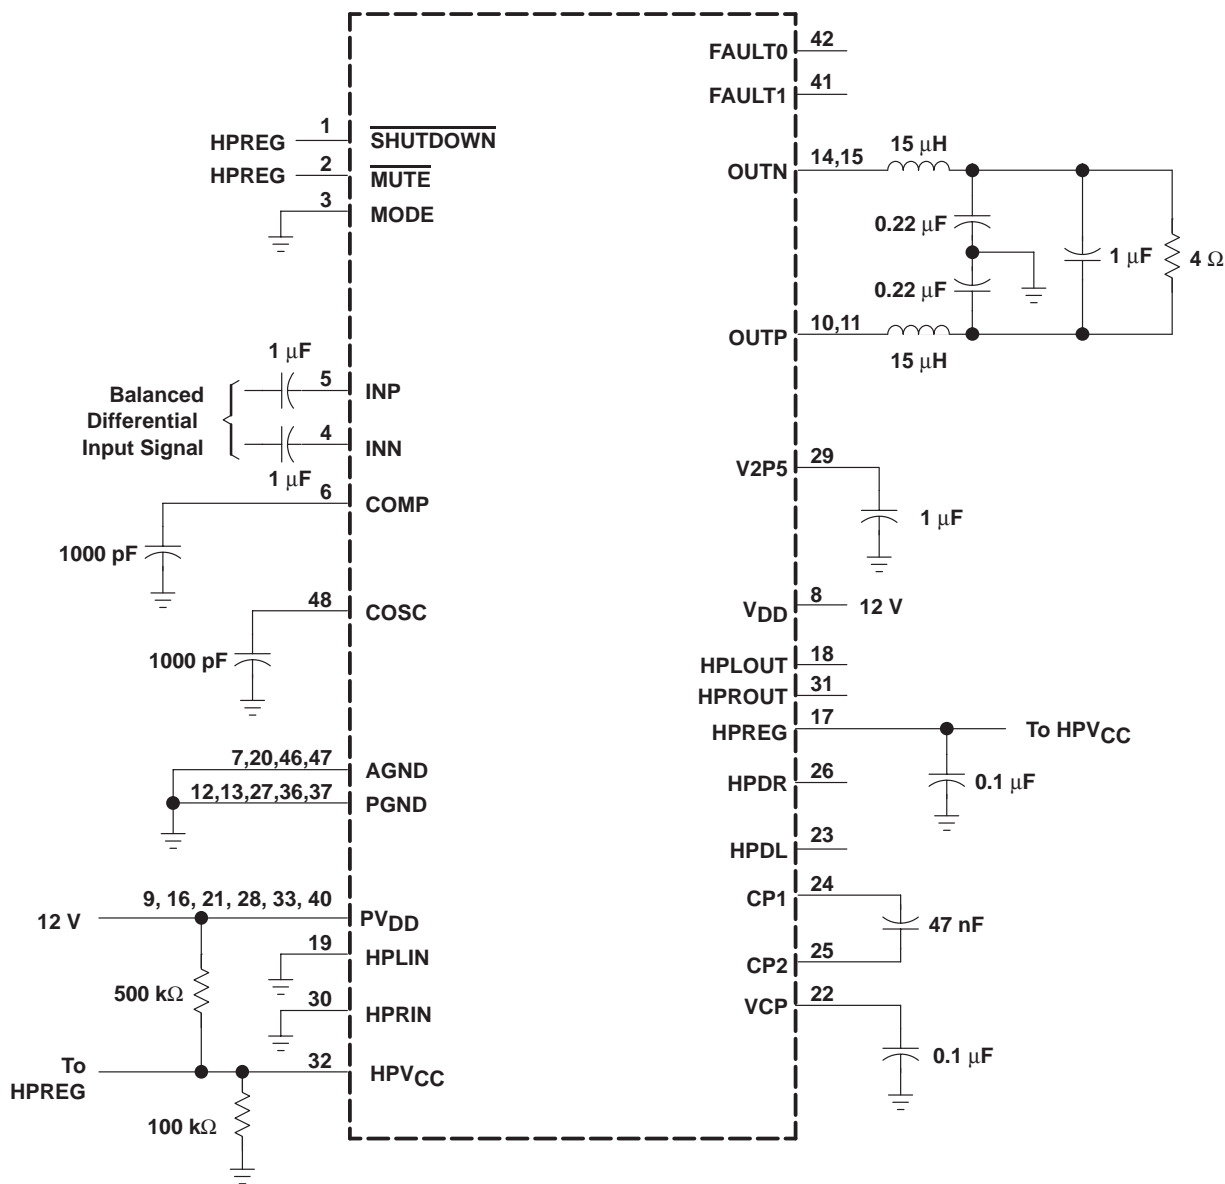

Figure 1. 12-V, 4- $\Omega$  Test Circuit
**electrical characteristics Class-D amplifier,  $V_{DD} = PV_{DD} = 12\text{ V}$ ,  $R_L = 4\ \Omega$  to  $8\ \Omega$ ,  $T_A = 25^\circ\text{C}$ , See Figure 1 (unless otherwise noted)**
**operating characteristics, Class-D amplifier,  $V_{DD} = PV_{DD} = 12\text{ V}$ ,  $R_L = 4\ \Omega$ ,  $T_A = 25^\circ\text{C}$ , See Figure 1 (unless otherwise noted)**